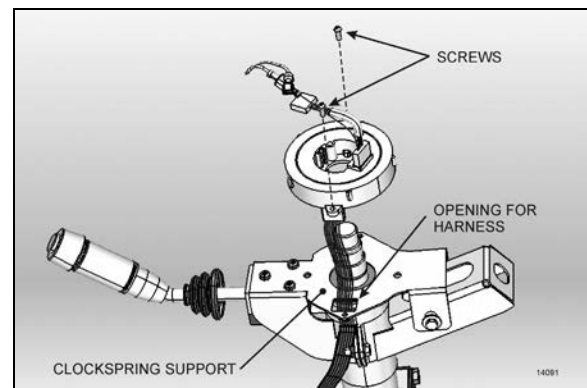

FIGURE 14: CLOCKSPRING INSTALLATION
2. Remove the 2 clockspring mounting screws and then remove the clockspring. You will have to disconnect the clockspring harness connector located lower along the steering wheel column. If necessary, remove the steering column covers (Figure 14).
3. Route the new clockspring harness through the opening in the clockspring support (Figure 14). Plug the connector at the base of the steering wheel column and fix harness along the steering wheel column.